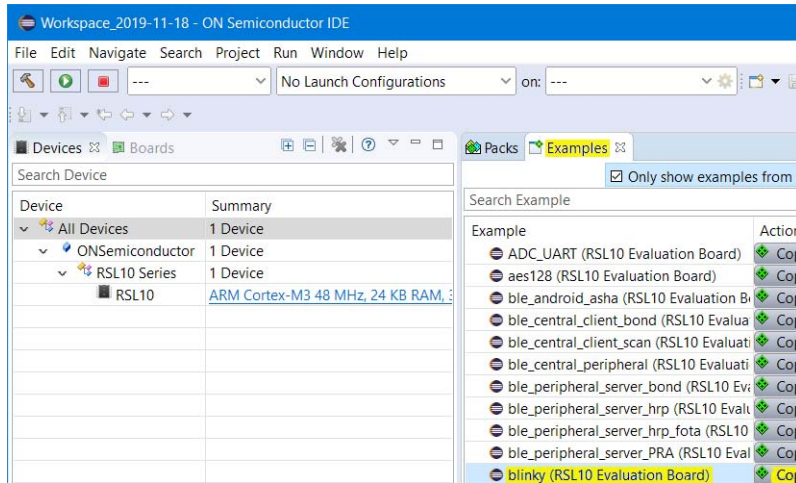

Figure 20. Pack Manager Perspective: Examples Tab
2. Choose the example project called *blinky*, and click the **Copy** button to import it into your workspace (see Figure 20). Choose a destination folder for a copy of the sample code.